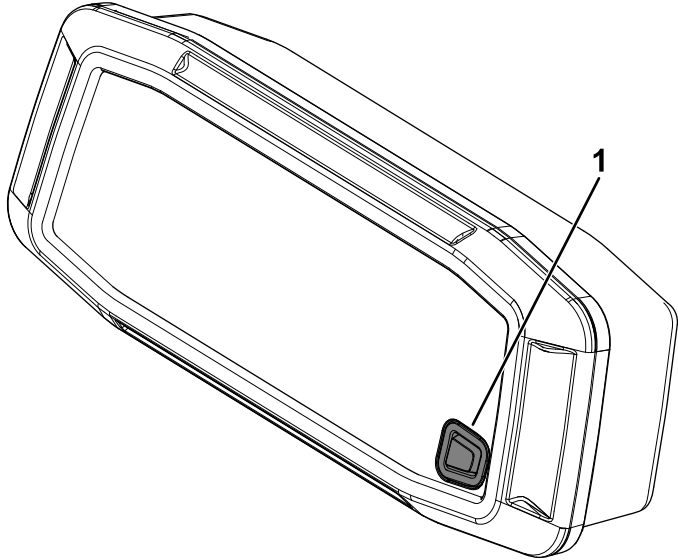

Figure 73
3. With the engine running and your foot off the brake pedal, press and hold the display button for 10 seconds (Figure 73).